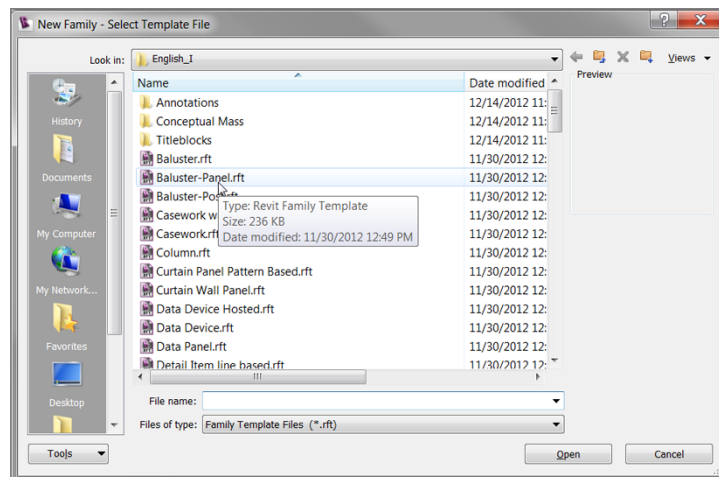

FIGURE 1.58: The creation of a family starts with templates.
1. Click the Application button, and select New ➤ Family to open the browse dialog shown in Figure 1.58.